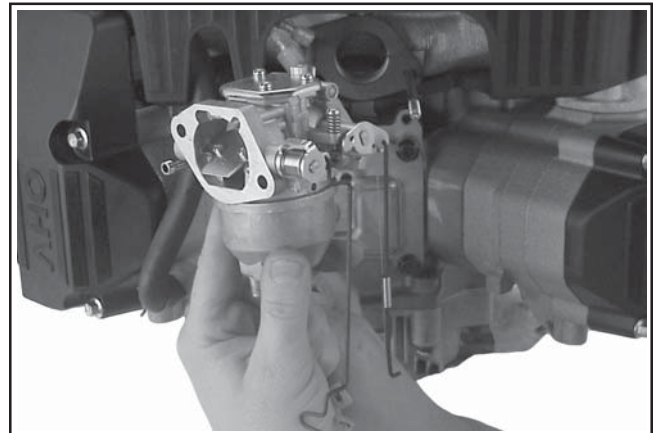

Figure 11-93. Attaching Linkages onto Carburetor.
2. Attach the choke linkage and the throttle linkage with dampening spring into their lever hole locations on the carburetor. See Figure 11-93.